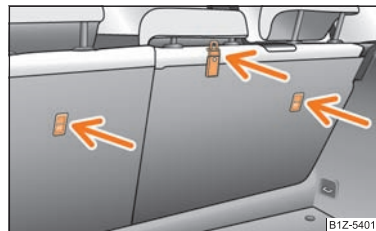

Fig. 150 Rear seat: Top Tether
In certain countries national legal provisions also require the equipment of the rear seat with fixing eyes for child seat using the "Top Tether" system ⇒ fig. 150.
- Attach the child seats with the "Top Tether" system only to the points provided for this purpose ⇒ page 158, fig. 150.